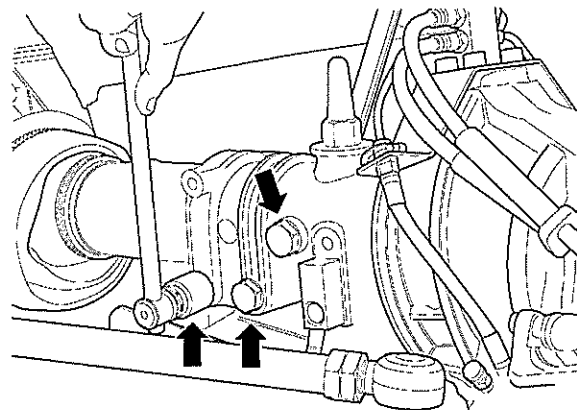

Fig 6 Portal hub anti-fatigue and axle centring bolts
8.8 Raise portal hub/half axle into horizontal position using jack and remove anti-fatigue bolts clamping portal hub to axle. Unscrew portal hub centring bolt (see Fig 6).